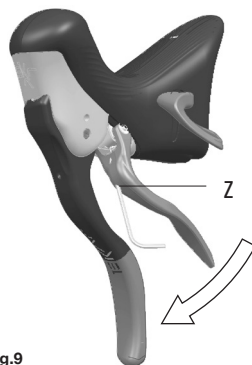

Fig.9
The position of the external lever (closer to or further from the brake lever) can be adjusted by moving the grub screw present inside the Z hole (**Fig. 9/10**). The correct position of the outer lever must be such that the lever almost skims but does not actually touch the rubber pad on the brake lever.
- Turn the Allen key in a clockwise direction (**Fig. 9**) if you need to move the lever further from the brake lever (**Fig. 10**) or counter-clockwise if you need to bring the lever closer.